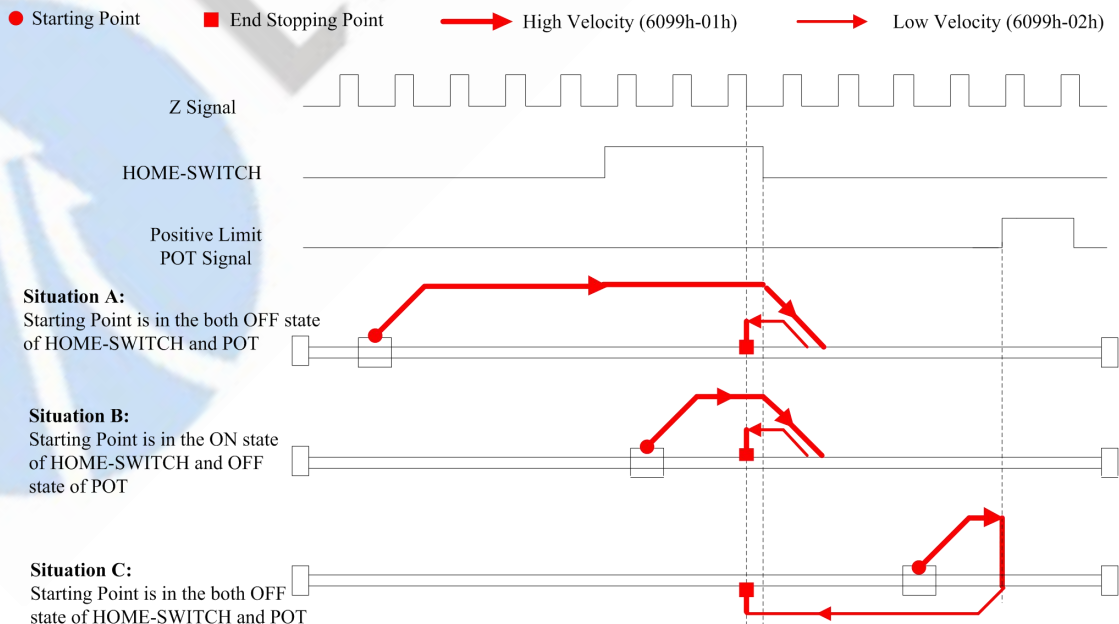

Figure 7-9 Method 9
- If the motor starting point is in the OFF state of HOME-SWITCH and Positive Limit , it will move toward positive direction at Fast Homing Velocity (6099-01h), and have a deceleration stop after leaving HOME-SWITCH, then move toward negative direction at Low Homing Velocity (6099-02h) and motion stops at the first effective Z signal during the ON state of HOME-SWITCH, as shown in Situation A of Figure 7-9.
- If the motor starting point is in the ON state of HOME-SWITCH and OFF state of Positive Limit, it will move toward positive direction at Fast Homing Velocity, and have a deceleration stop after leaving HOME-SWITCH, then move toward negative direction at Low Homing Velocity, the motion stops at the first effective Z signal during the ON state of HOME-SWITCH, as shown in Situation B of Figure 7-9.
- If the motor starting point is in the OFF state of HOME-SWITCH and Positive Limit, it will move toward positive direction at Fast Homing Velocity until the Positive Limit goes ON to have a quick stop, then moves toward negative direction at Low Homing Velocity and motion stops at the first effective Z signal during the ON state of HOME-SWITCH, as shown in Situation C of Figure 7-9.